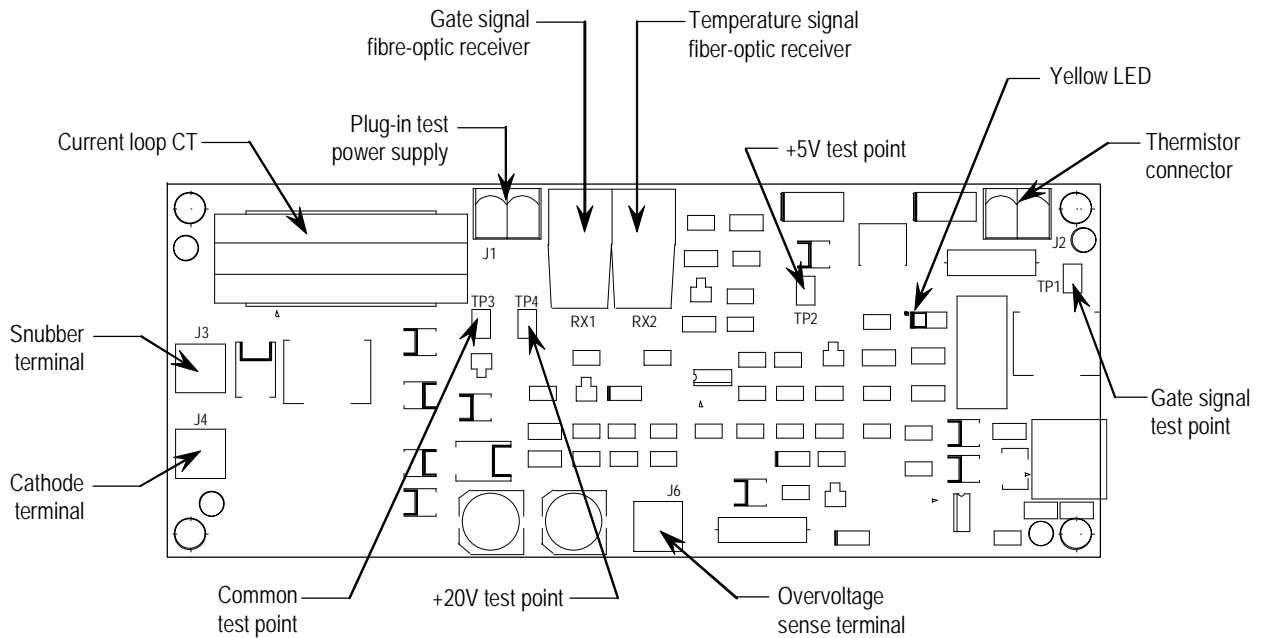
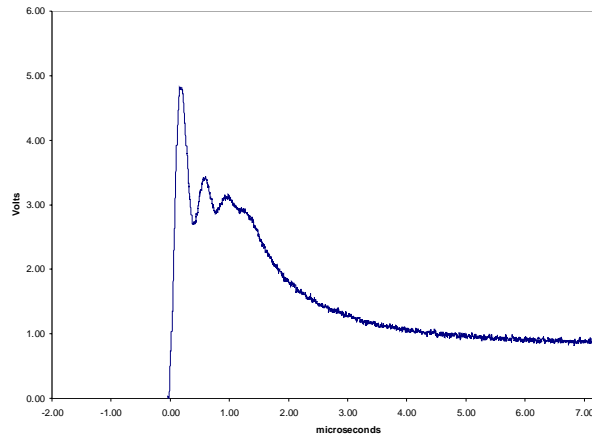

Figure 3.4 – Test Power Application on Gate Driver Board
Figure 3.5 – Gate Pulse Detail – Typical SCR (ABB)
6. Since the gate driver circuits normally receive power from the snubber circuits when the SMC is operating, an alternate source must be used for testing. Locate the Portable Test Power Supply that was included with the equipment, and verify that the rating corresponds to the available power system (i.e. 110/120 VAC or 220/240 VAC). Plug the unit into the power source, and plug the green connector into **J1** on each of the gate driver boards (See Figure 3.4).
8. The gate-driver board voltage may be checked by connecting a DC voltmeter to **TP4 (+)** and **TP3 (-)** (see Figure 3.4). With the specified portable test power supply connected, the voltage should be 9 to 12 VDC. If the current loop is energized and the gate test pulses are **not** activated, the voltage should be 18 to 22 VDC.
9. The actual gate pulse may be checked by connecting an oscilloscope between **TP1** and **TP3** (see Figure 3.4). The pulse should appear as shown in Figures 3.5 and 3.6.